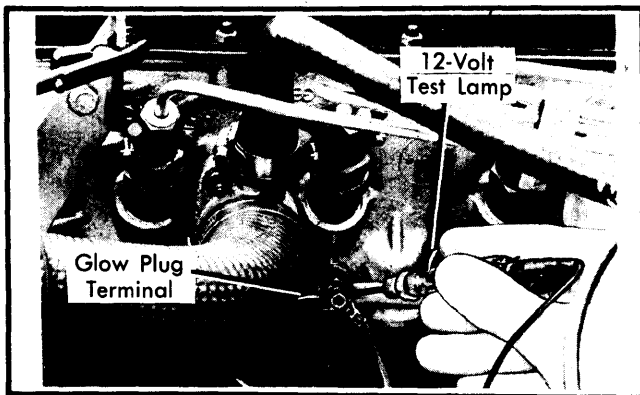

Fig. 16 Testing Glow Plugs with Test Lamp
1) Connect 12-volt test lamp across glow plug terminal and ground. See Fig. 16. Check test lamp and indicator light on instrument panel. If indicator light and test lamp are both out, control unit is defective. If indicator light is on, but test light is not, glow plug relay is defective. If indicator light is out, but test light is on, check coolant temperature sender or control unit.